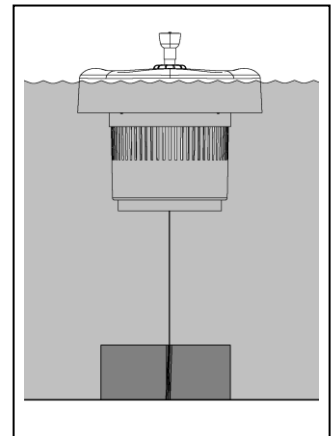

Fig. 2
2. If desired, anchor the fountain in the pond using a heavy object (such as a rock) and some string. Cut a length of string slightly longer than the depth of the pond. Tie one end of the string to the anchor and the other end to the ring at the bottom of the float. Fig. 2